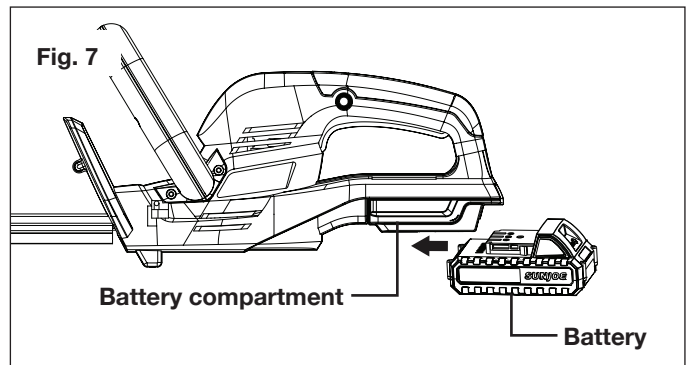

Fig. 7
1. Remove the blade cover and insert the battery in the battery compartment (Fig. 7).